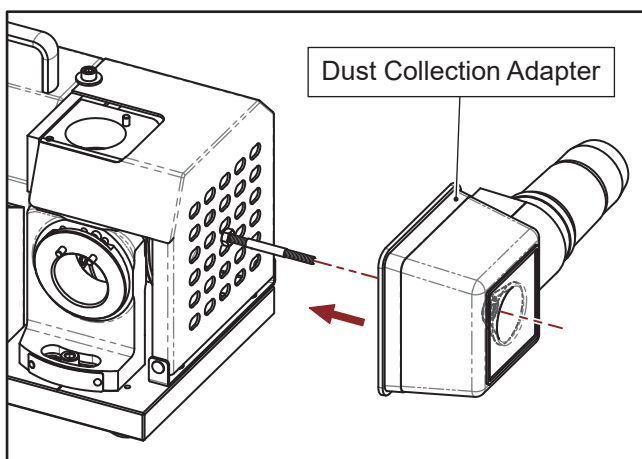

Fig. 5-2
2. Align the hole in the center of the dust collection adapter to threaded rod. Push the dust collection adapter to the end. (Fig. 5-2)